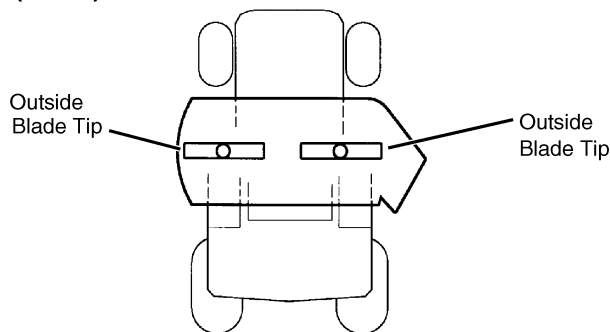

FIG. 30
- Measure height from level surface to outside blade tip on left and right blades. (See FIG. 30) Difference between measurements should not exceed **1/4 in. (6 mm)**.